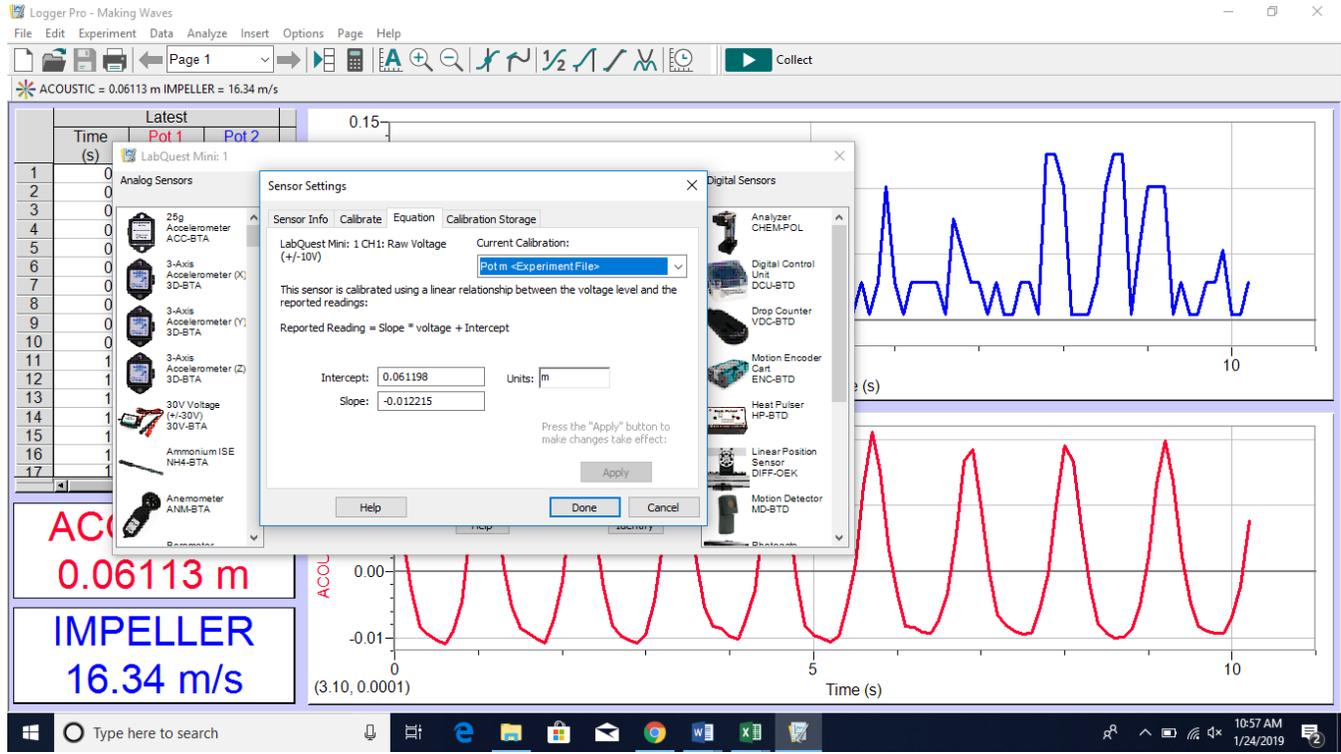

Figure A31. LoggerPro screenshot showing options for setting up sensors – equations tab (ONLY IF NEEDED).
- Next, click on the icon of either of the sensors and then click calibrate. Click the “Equation Tab” (Figure A31).